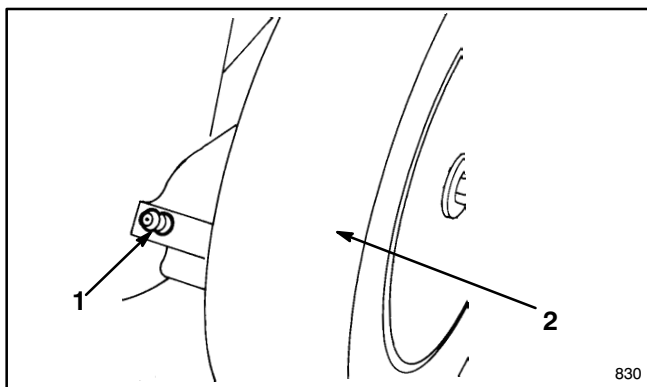

Figure 29
2. Move rear wheel height-of-cut levers to "2" setting. Wipe grease fittings with clean rag (Fig. 29). Install grease gun onto fitting and gently apply two or three pumps of #2 Multi-Purpose Lithium Base Grease.